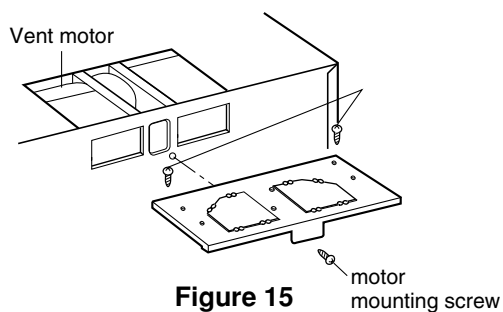

Figure 15
1. Remove one motor mounting screw and two mount-all mounting screws. Take off the mount-all from the oven. See Figure 15.
5. Reattach mount-all to microwave oven. Attach motor mounting screw and then two mount-all mount screws. See Figure 15.